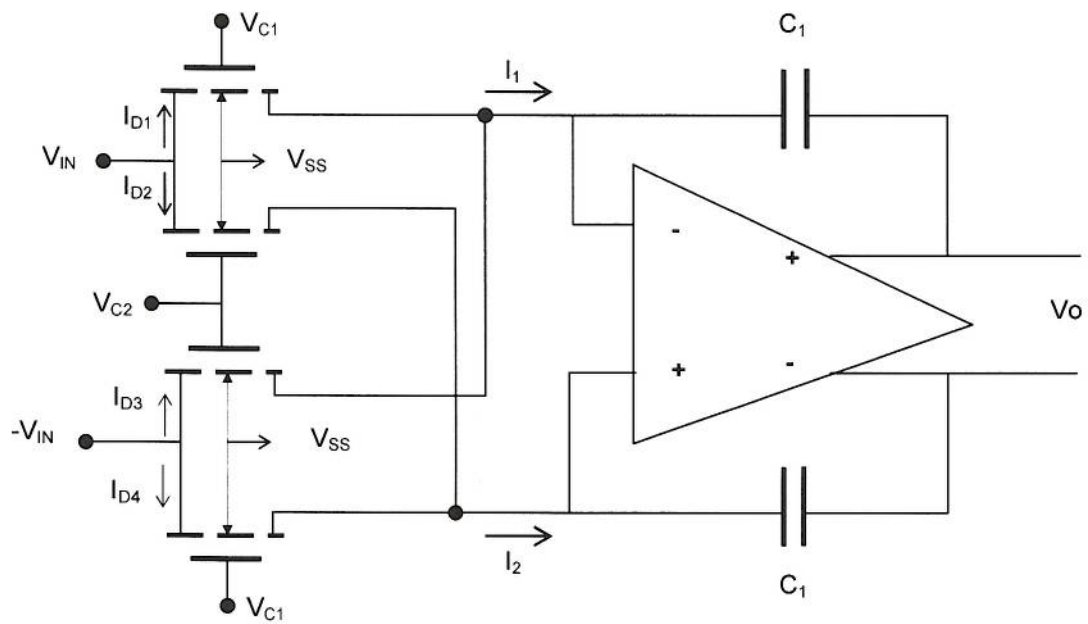

Figure 4.2
- (c) Figure 4.2 shows a fully differential continuous time integrator using a balanced double differential linear active transresistor. Derive an expression for the time constant of the integrator. You may ignore all bulk effects, and assume all MOSFETs are operating in the triode region.